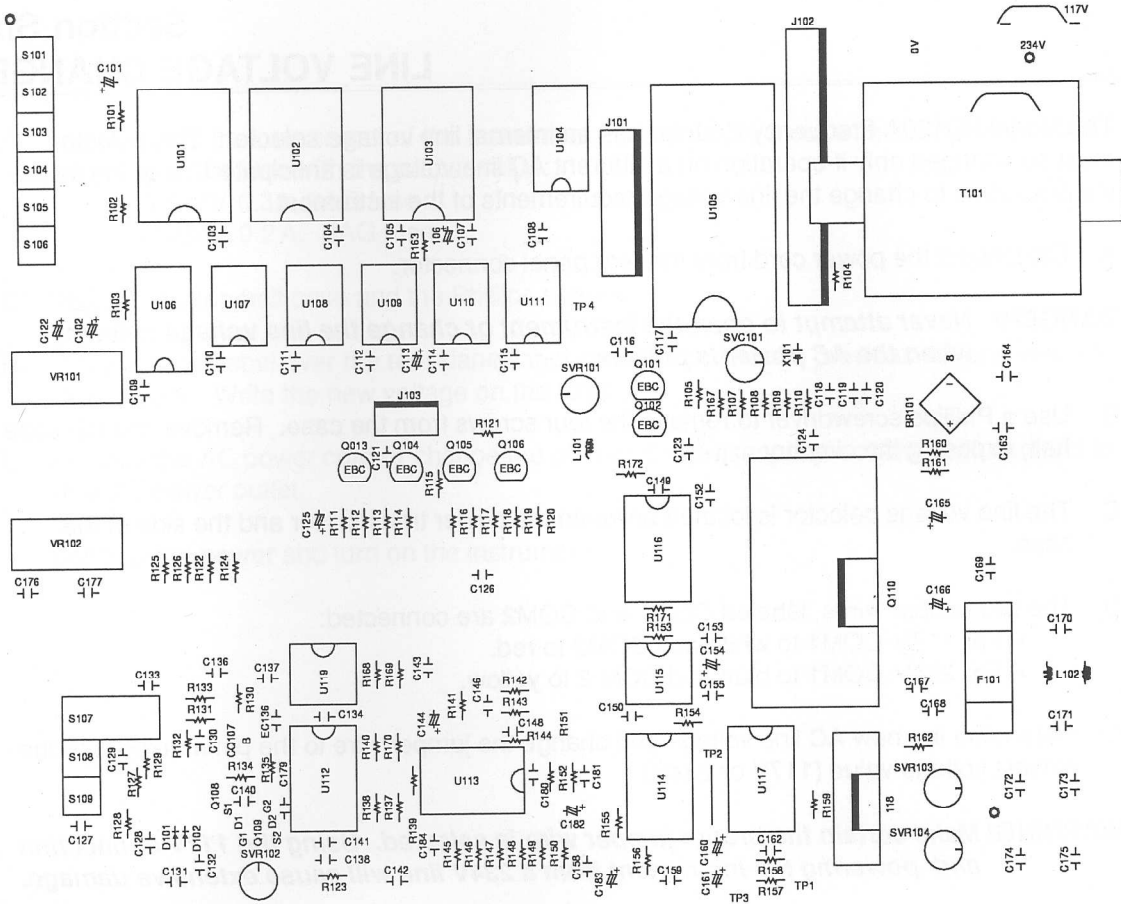

Figure 5.1
**Note:** Refer to Figure 5-1 on the following page for details.